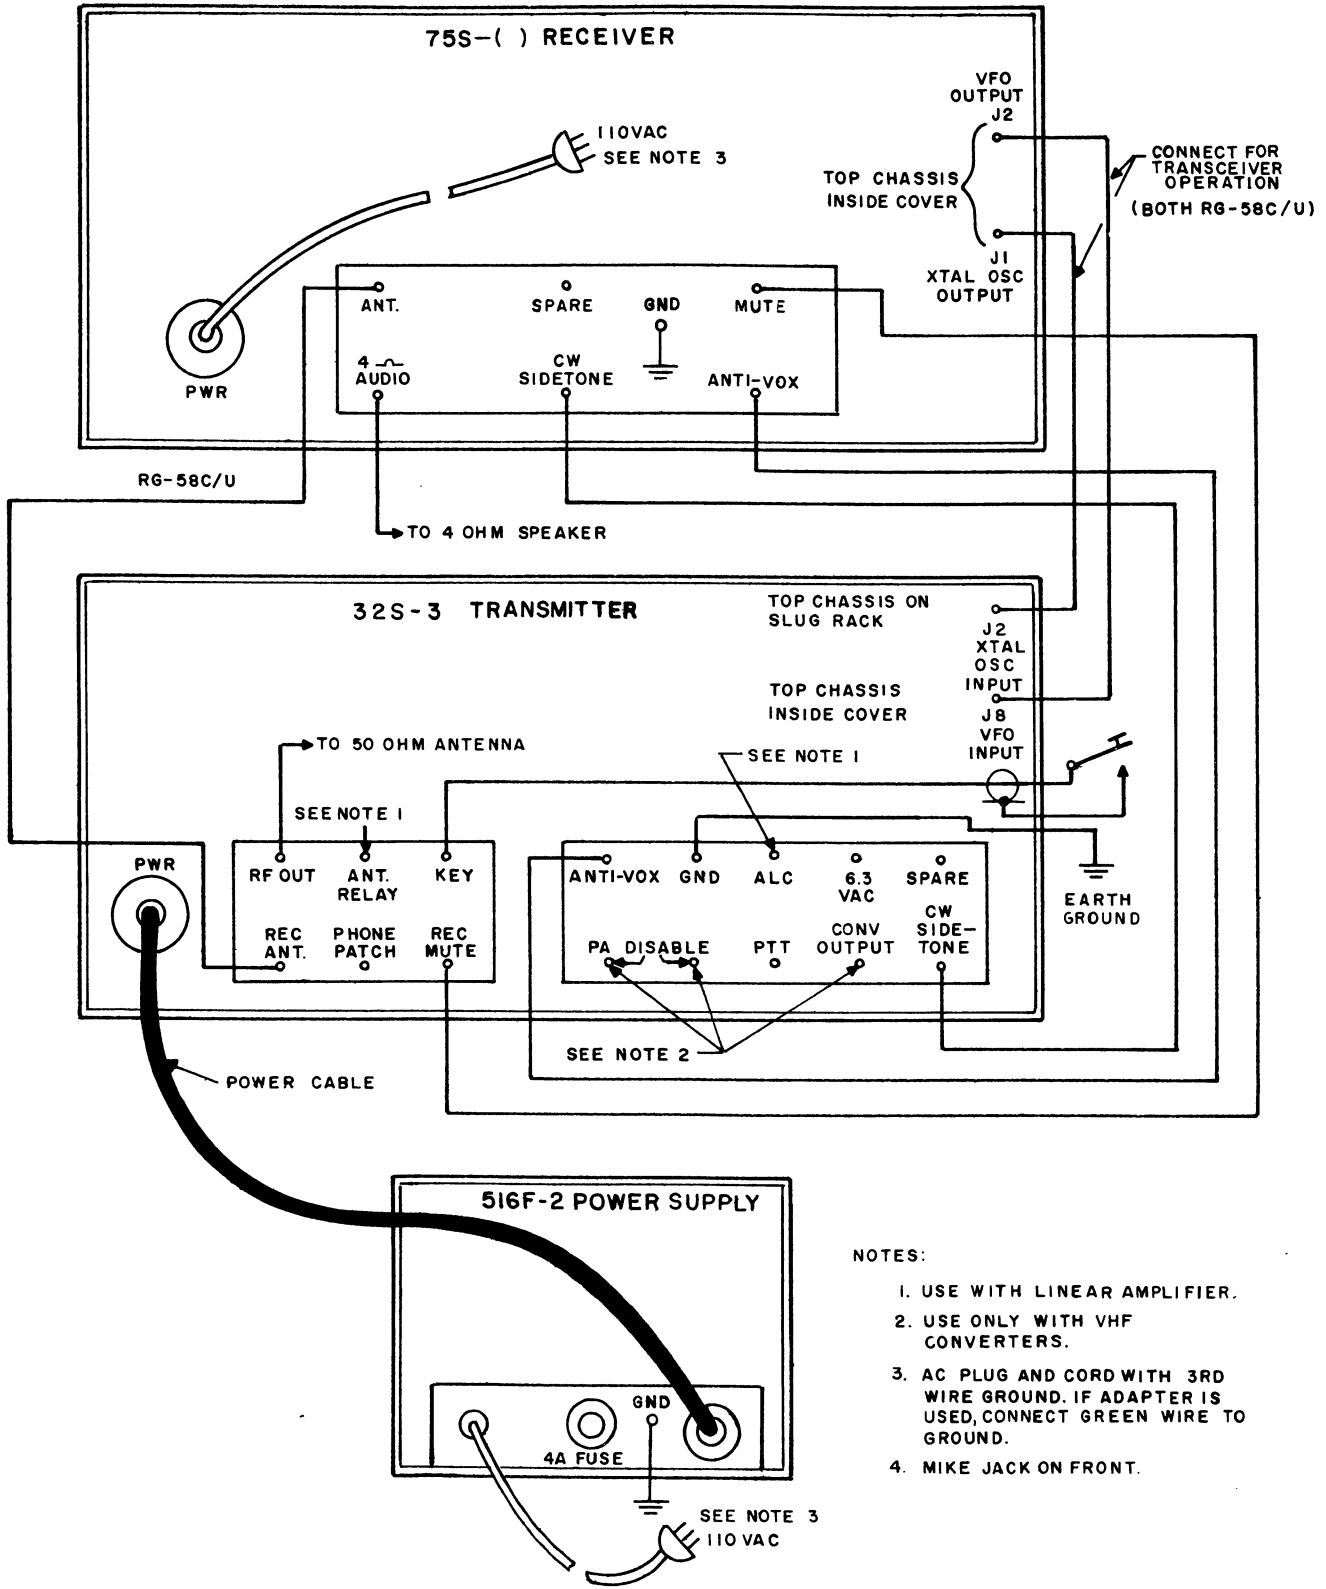

Figure 1-2. Receiver-Transmitter Interconnections
If the 32S-3 is connected with a 75S-() Receiver, as shown in figure 1-2, and it is desired to zero beat the 32S-3 to a frequency tuned on the receiver, set CW CAL knob to 3 o'clock, and gently push in on the shaft in the center of the CW CAL knob (13) while rocking the tuning dial across the receiver frequency. A signal will be heard as the 32S-3 CW CAL signal passes across the receiver frequency. Zero beat this signal by manipulating the 32S-3 tuning dial. The level of the CW CAL signal is adjustable with the CW CAL knob. Maximum output is obtained with the control rotated fully clockwise.
The tone oscillator output is fed to SIDETONE jack J19 when the key is closed. The SIDETONE ADJUST is a screwdriver control located under the top cover on a standoff bracket to the right of the vfo. With the 75S-() and 32S-3 connected as shown in figure 1-2, and the 75S-() audio gain control set in the desired position for CW operation, key the 32S-3, and adjust the SIDETONE ADJUST control for the desired level at the receiver audio output.
a. Transmitter and receiver must be connected as shown in figure 1-2.
- d. Set zero set knob (3) on the 32S-3 so that hairline indicates same frequency as that of receiver.